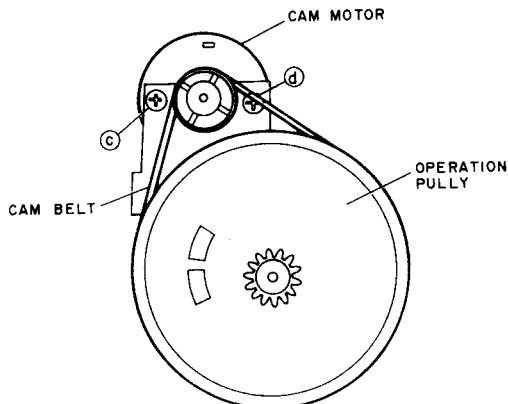

Fig. 4-8
- 5) Remove cam motor securing screws (c) and (d). (See Fig. 4-8.)